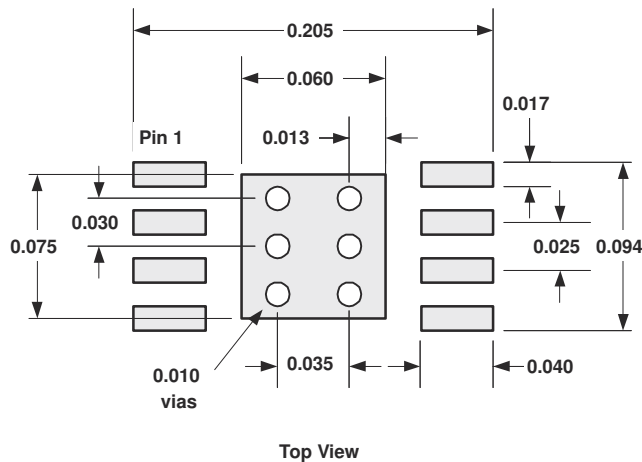
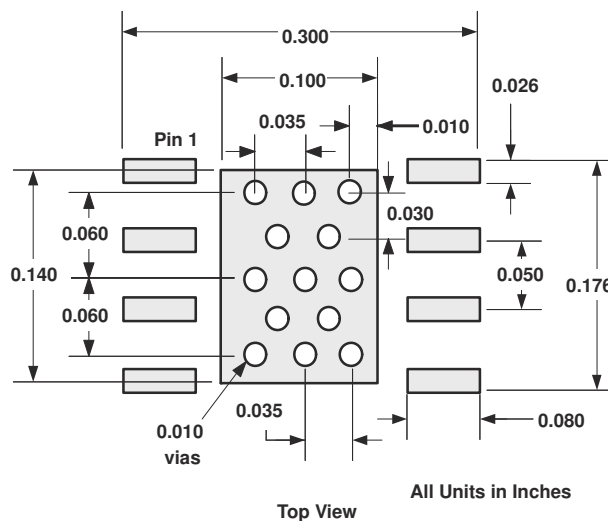

Figure 8-14. DGN PowerPAD™ Integrated Circuit Package PCB Etch and Via Pattern
Figure 8-15. DDA PowerPAD™ Integrated Circuit Package PCB Etch and Via Pattern
1. Figure 8-14 and Figure 8-15 show the PCB with a top-side etch pattern. There must be etch for the leads and for the thermal pad.